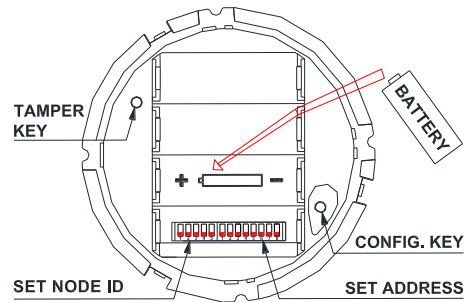

Fig. 2 – Configuration guide diagram
1. Set the NODE ID as shown in Table 1 by adjusting the 5-bit DIP switch settings located on the underside of the device as shown in FIG.2. NODE ID range is **00~ 31**.
2. Set the device address as shown in Table 2 by adjusting the 8-bit DIP switch settings located on the underside of the detector body as shown in FIG. 2. Address range is **1 ~ 125**.
3. Install the battery into the battery box according to the "+" and "-" directions as shown in FIG. 2.